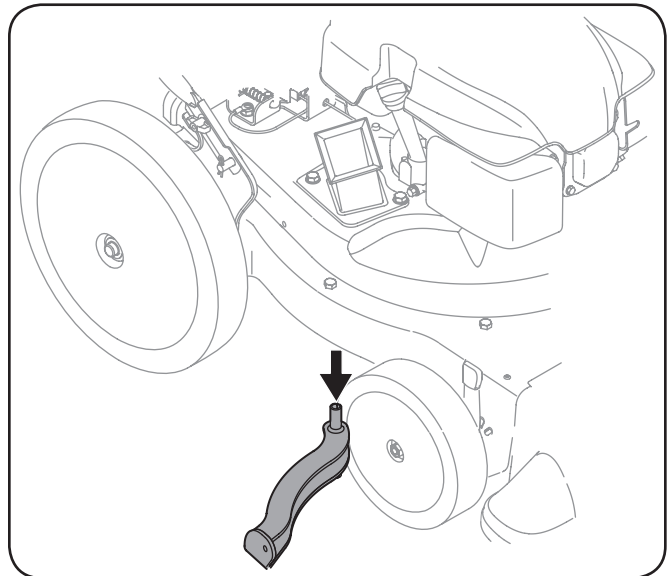

Figure 6-3
6. Remove and clean the screen by scraping or washing with water. See Fig. 6-3.